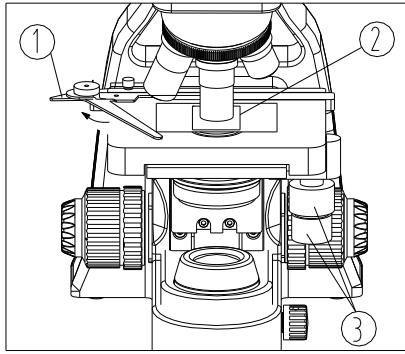

Fig. 15
1. Push the lever① of the specimen holder backwards.
2. Place the slide on the stage with the cover glass② facing upwards. Gently release the lever① and allow the clip to slowly close onto the slide and clamp the slide firmly(see Fig.15).
3. Rotate the X and Y-axis knob③ of the stage, and move the specimen to the center (aligned with the center of objective).